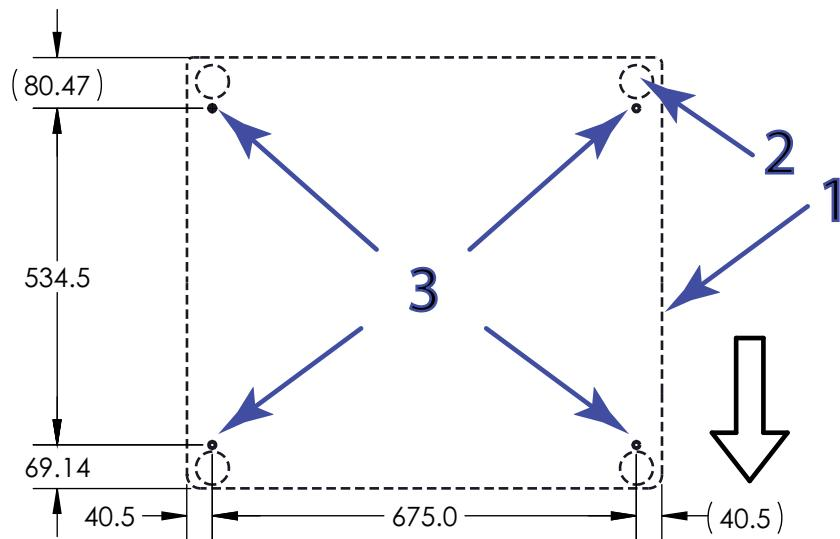

Figure 14. Location of anchoring points (view from above)
Legend for Figure 14
1. Refer to Figure 14 on page 69 and drill holes in the table at the appropriate locations to align with the anchoring points on the frame base. 15 mm (0.59 in) diameter holes are recommended.